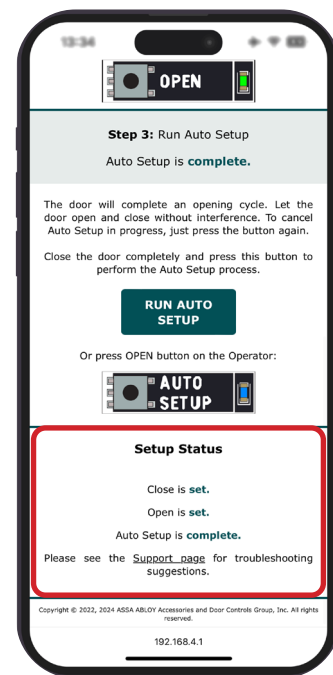

Figure 10
3. Close the door completely and select “Auto Setup” to perform the Auto Setup Process. (Figure 10)
Once done, the Setup Status located on the bottom of the screen will show that each step has been completed. (Figure 10)